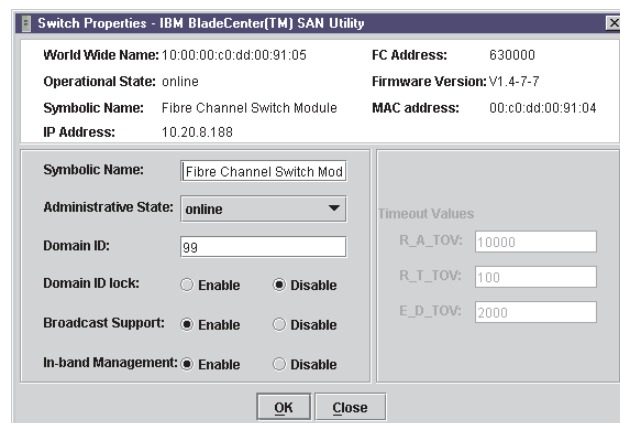

Figure 15. Switch Properties window
**Switch module properties:** Use the Switch Properties window shown in Figure 15 to change the module name, administrative state and domain ID; to enable or disable broadcast support; and to enable or disable inband management. The timeout values are displayed for reference purposes only when the switch module is online. These fields become active when the switch module is taken offline. After making changes, click **OK** to put the new values into effect.